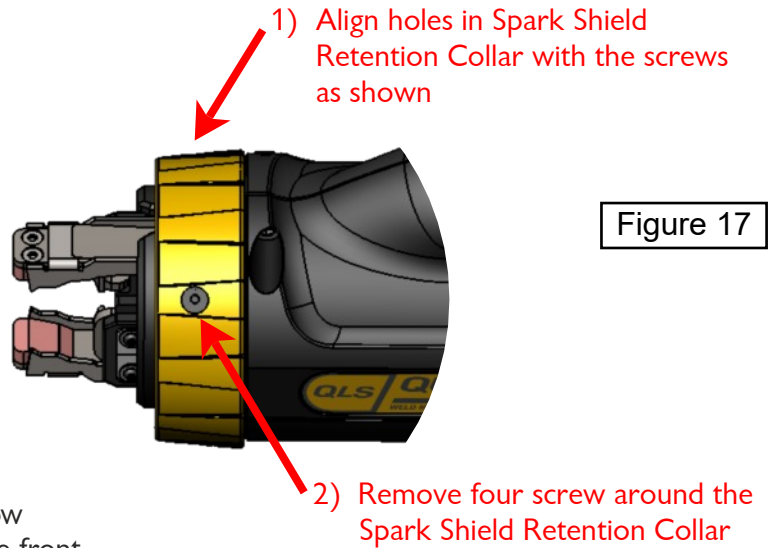

Figure 17
3. Remove the 4 flat head screws (5/64 Hex Key) via the access holes in the yellow retention collar (Figure 17).